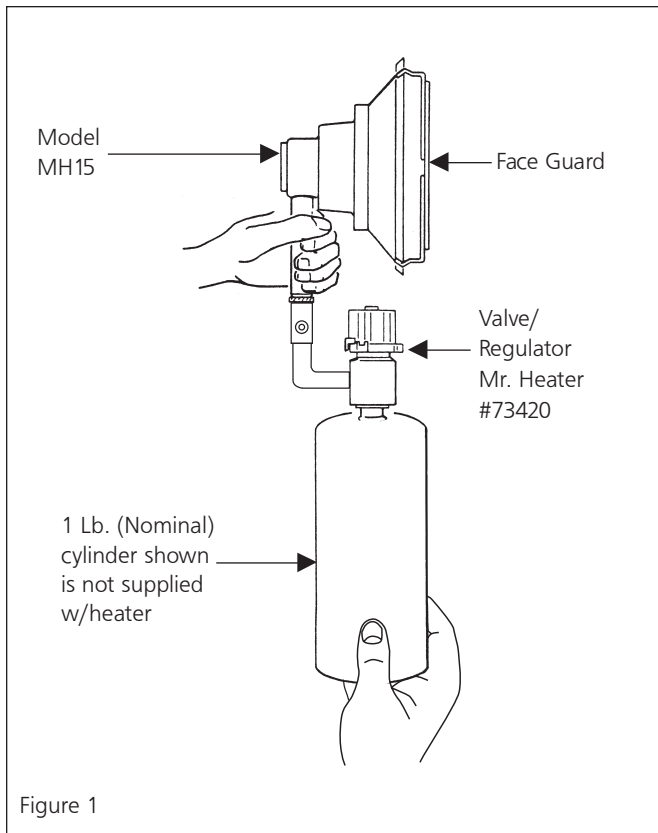

Figure 1
- 1.3 Hold heater in one hand and with other hand hold propane cylinder vertically and carefully turn clockwise into heater valve-regulator until snug. (Careful not to cross-thread) – Fig. 1